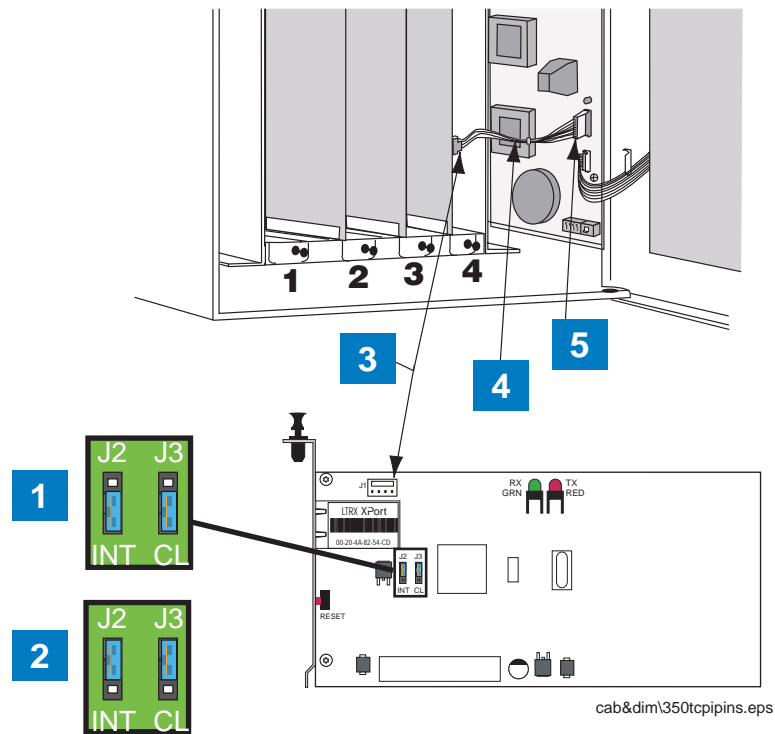

Figure 6. Installing TCP/IP Module in TLS-350/ProMax Com Bay Slot 4
If slots 1 - 3 are in use, or if you want to free up slots 1 - 3 for other modules, the TCP/IP module can be installed in slot 4. To use slot 4, you must move jumpers J2 and J3 on the module onto the 2 top pins, and connect the cable from the kit (P/N 330584-001) to connector J1 on the TCP/IP module and to connector J6 on the console's ECPU board (see Figure 6). **Note: if the TCP/IP module is installed in slot 4, the displayed slot number (X) will be 5.**
Legend for numbered boxes in Figure 6